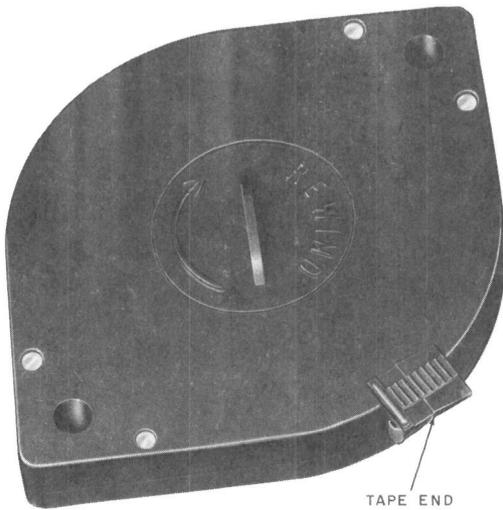
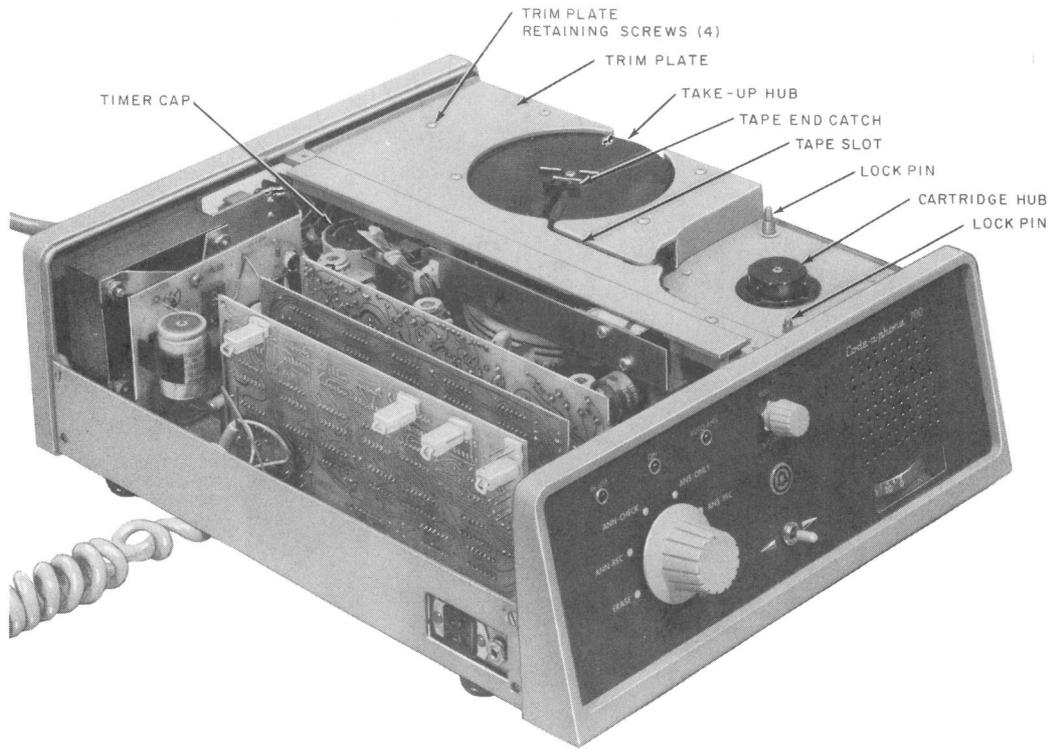
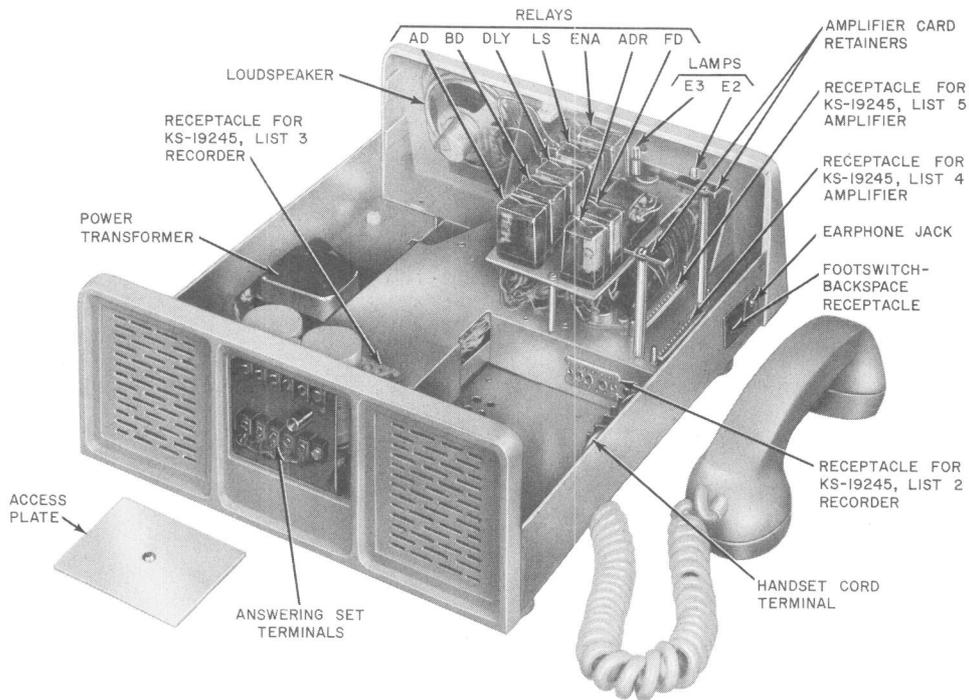

Fig. 9—KS-19245, List 6 Cartridge
Fig. 24—KS-19245, List 1 (MD) Telephone Answering Set—Cover and Components Removed
Fig. 25—KS-19245, List 13 (MD) and List 24 Telephone Answering Set—Cover Removed
- (e) The KS-19245, List 6 Cartridge (Fig. 9) provides a 1/4-inch wide plastic base magnetic recording tape with a capacity for 2 hours of incoming message recording time.
- (1) Set function selector to OFF.
- (2) Place cartridge (Fig. 9) over cartridge lock pins and hub (Fig. 25) and press down into place.
- (3) Slide tape end (Fig. 9) through tape slot (Fig. 25) and into slot of take-up reel and lock into place. Make certain, by listening for a snap, that both the left and right sides of the tape end are locked in place.
##### 4.14 Cartridge Removal (Fig. 25).
- (2) List 1 set only.
- (a) Loosen amplifier board retainers (2) (Fig. 24).
- (3) Lists 13 and 24 sets only.
- (a) Remove the four trimplate retaining screws (Fig. 25).